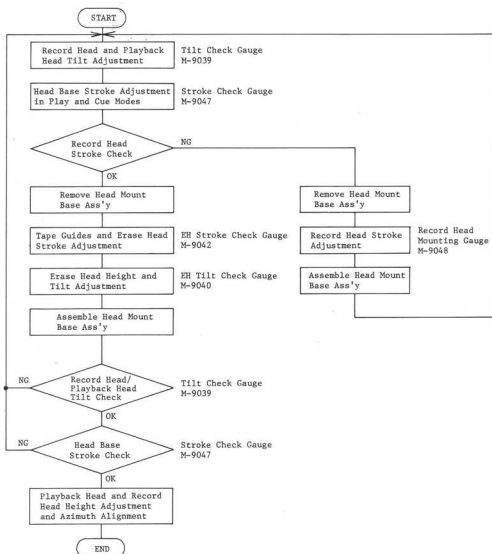

Fig. 5.4 Adjustment Flow Chart
Note: On items 5.3 — 5.8, please refer to Fig. 5.4 flow chart.